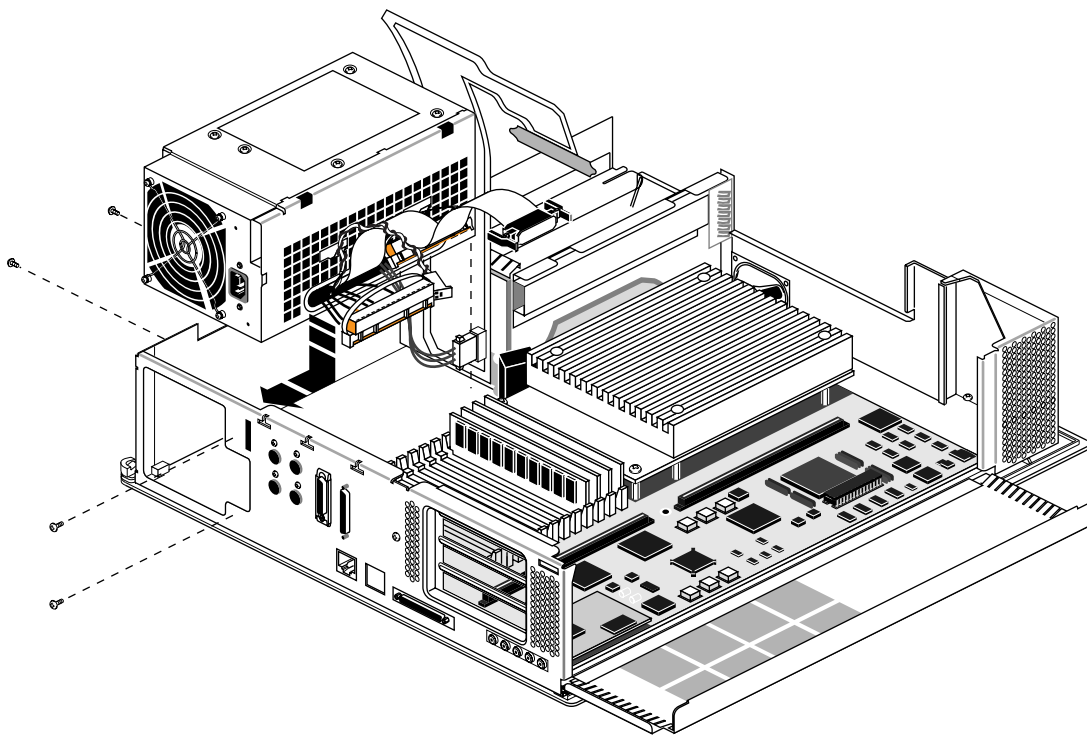

Figure 2-12 Installing the New Power Supply
5. Align the screw holes on the power supply with the appropriate holes on the chassis, then install and tighten the screws. See Figure 2-12.